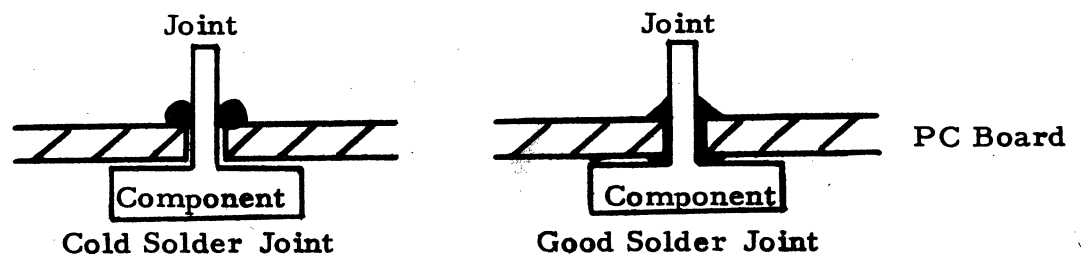

Figure 2 - Good vs. Bad Solder Joint
- **Cold Solder Joint** - This is caused when not enough heat is applied from the soldering iron causing bad solder connections. Cold solder joints are characterized by a dull, lumpy or balled appearance (Figure 2).